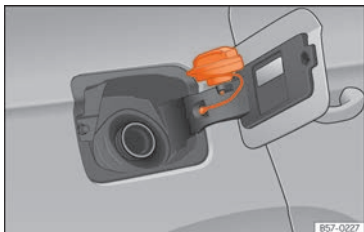

Fig. 204 Fuel tank flap with tank cap attached.
- Place it in the space on the hinge of the open flap »» Fig. 204.